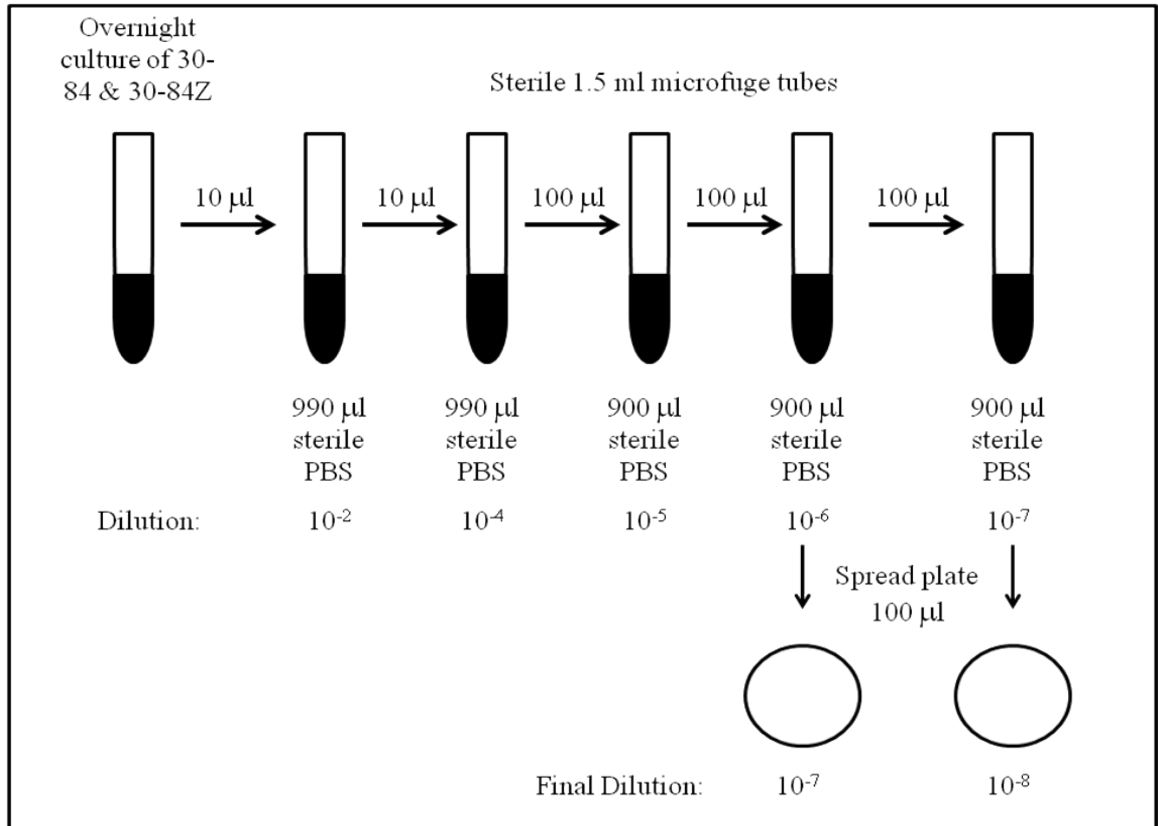

Fig. 1.4
Each person does this independently. Label your plates with **your name & section no.** Using the procedure given below (**Fig. 1.4**), serially dilute the broth culture and spread onto **TWO (2)** LB agar + X-gal plates at both 10⁻⁷ and 10⁻⁸. Place your labeled plates in the box at the front of the room. (Your GTA will store the plates until we count them during the next lab period).